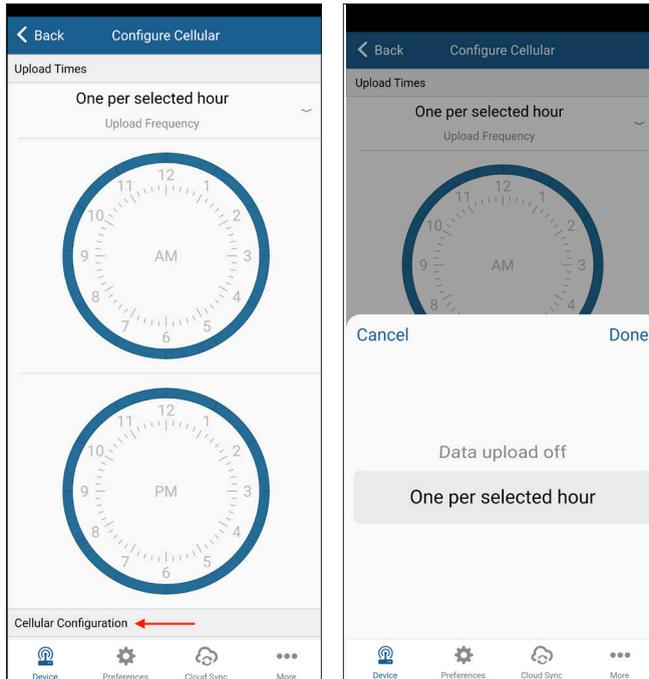

Figure 6 Configure Cellular upload frequency
- In the **Selection** menus, choose upload frequency (Figure 6).